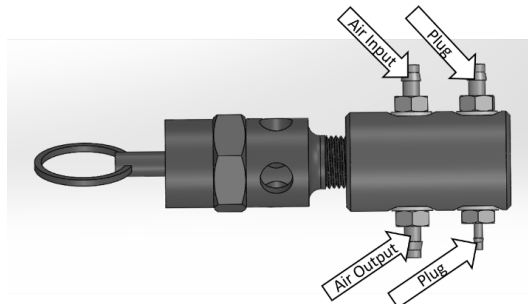

Fig. 3
- 3 If the safety relief valve that you removed has only two connections for tubing (Fig. 2), you will need to replace the barbs on the new safety relief valve with plugs and nylon washers (provided); see Fig. 3.